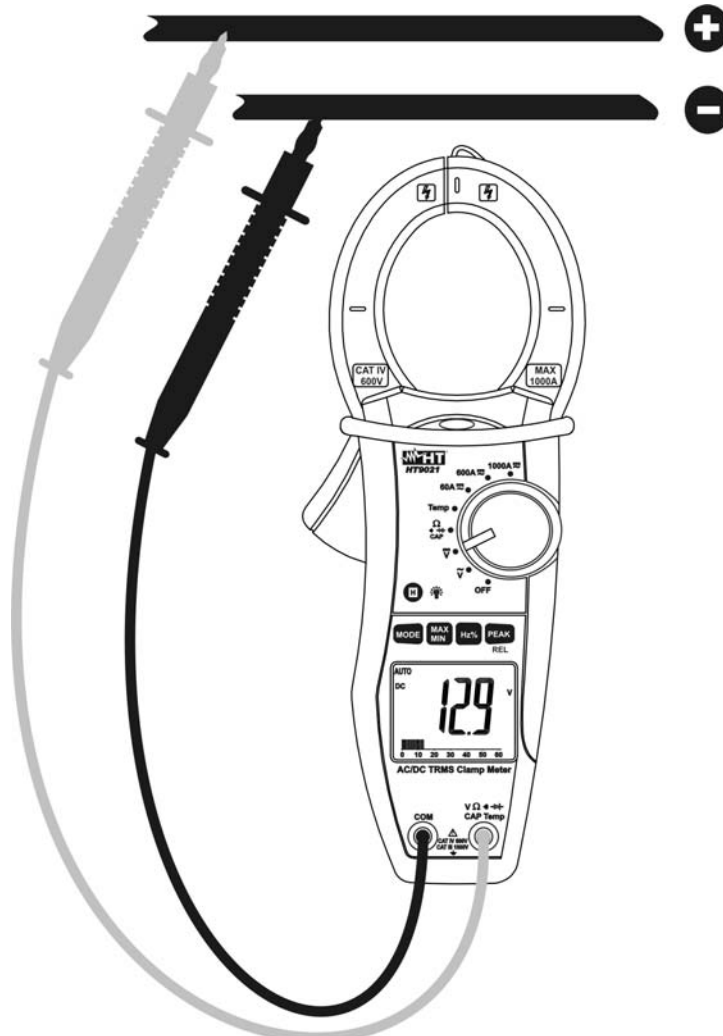

Fig. 4: Taking DC voltage measurements
2. Insert the red test lead plug into $V\Omega$ (CAP Temp) jack and the black test lead plug into COM jack (Fig. 4)